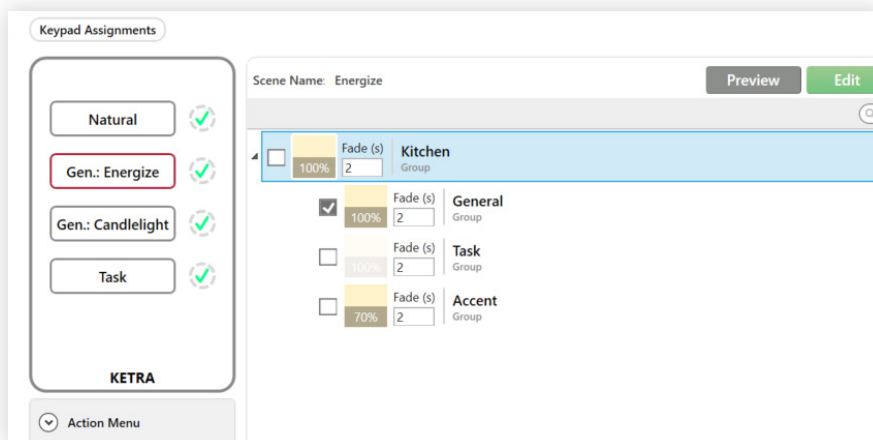

fig. 60
- 3 For each button, ensure that only the corresponding zone (group) is checked. See fig. 60. If assigning a different scene created on the Scenes tab, it is okay if the scene would normally control other groups as well. As long as only the desired zone is checked for this button, only that zone will be affected by the button.
**Note:** To exclude a group from a scene, select the scene button in the Keypads tab and uncheck the group. (See figure 60.) A common error is to try to exclude groups from scenes using the NA feature on the Scenes tab rather than unchecking the group on the Keypads tab. NA groups do not respond to the activation of a scene, but they do turn off when the scene is deactivated, and they will also be affected by the keypad's dimming controls.